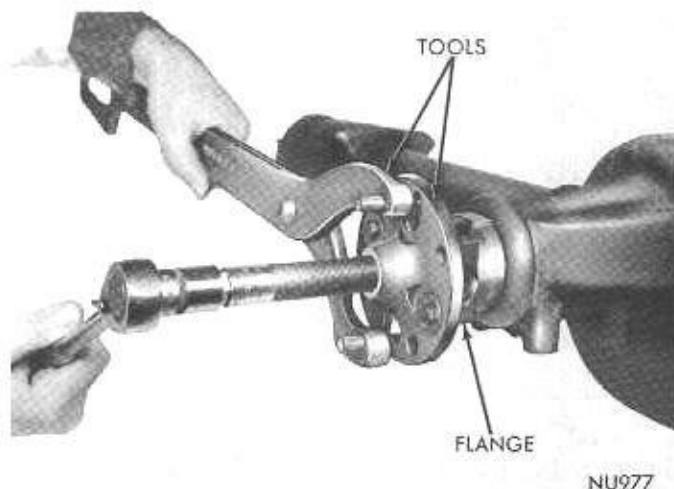
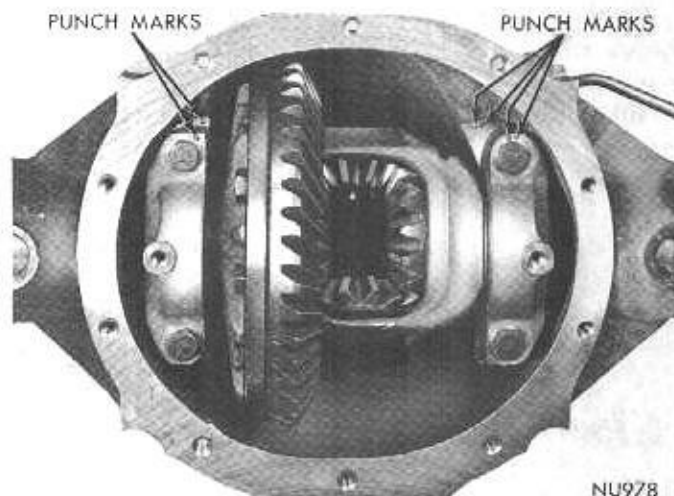

Fig. 10—Removing Drive Pinion Companion Flange
Fig. 11—Marking Bearing Caps and Housing for proper Identification
(8) Using an inch-pound torque wrench, measure pinion bearing preload and record. Remove drive pinion nut and washer. Using Tool C-452 and holding Tool C-3281 remove drive pinion flange (Fig. 10).
(9) Using a screwdriver tip and hammer, remove the drive pinion oil seal from carrier casting and discard.
(10) Mark axle housing and differential bearing caps for proper relocation during reassembly (Fig. 11).
(11) Loosen and remove differential bearing cap bolts and remove bearings caps and threaded adjusters.
(12) Remove differential case and ring gear assem-